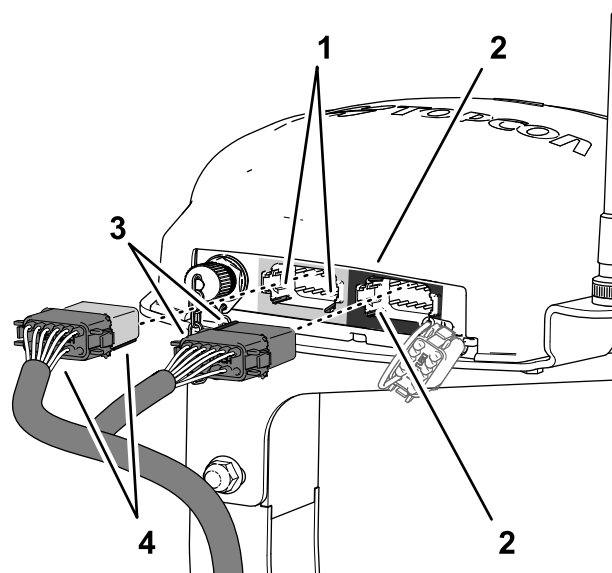

Figure 198
- Align the 2 keys at the long face of the gray and black 12-socket connector of the data harness with the 2 key slots in the bottom, horizontal wall of the left (gray) 12-pin connector of the navigation receiver (Figure 198).
- Connect the gray and black 12-socket connector of the data harness into the left (gray) 12-pin connector of the navigation receiver until the connector locks snap together securely (Figure 198).
- Align the 2 keys at the short side of the black 12-socket connector of the data harness with the 2 key slots in the left, vertical wall of the right (black) 12-pin connector of the navigation receiver (Figure 198).
- Connect the **black only** 12-socket connector of the data harness into the **left (black)** 12-pin connector of the navigation receiver until the connector locks snap together securely (Figure 198).